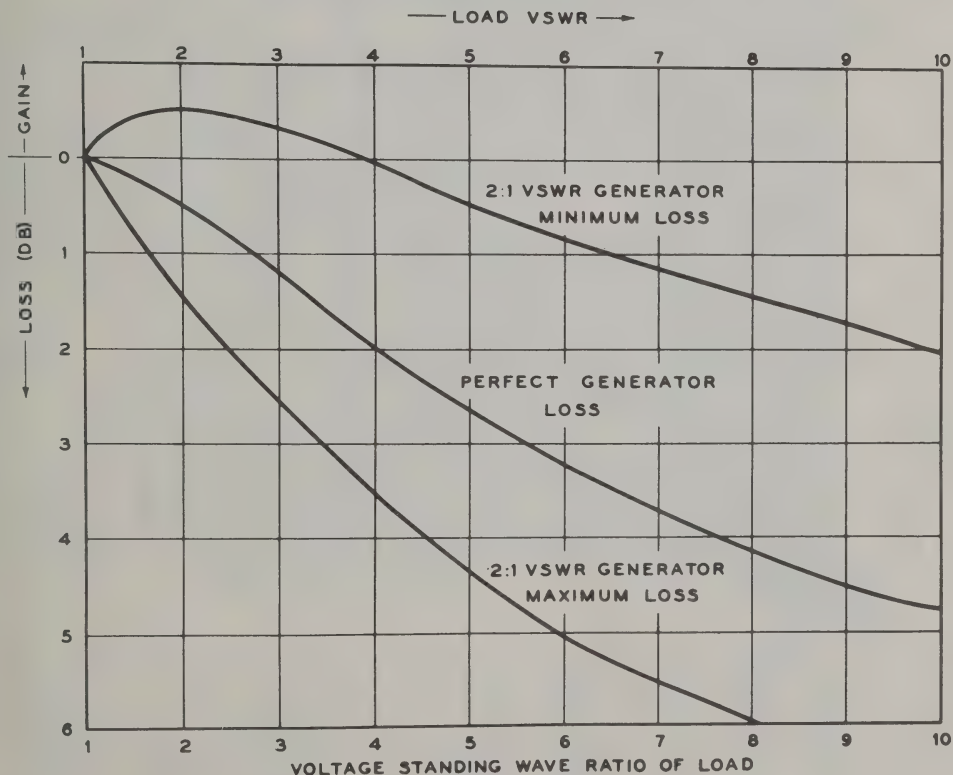

Figure 5-1. Power Loss Versus Load, Voltage Standing-wave Ratio
b. The internal impedance of the Signal Generator TS-419/U has been maintained sufficiently close to 50 ohms so that the VSWR, looking into the instrument through the RF OUTPUT connector, is in the worst case less than 2:1 (6 db). For a generator which is a perfect match to the transmission line, any mismatch of the load to the line will result in reduced power transferred to the load. Since the signal generator is not perfectly matched to the line, a mismatch between the load and the nominal 50-ohm resistive impedance of Signal Generator TS-419/U may cause either an increase or a decrease in power delivered to the mismatched load, as compared to that which would be delivered to a 50-ohm resistive load. The loss due to mismatched loads for a perfect signal generator and the range of loss for the maximum allowable VSWR on the actual signal generator are shown in figure 5-1.